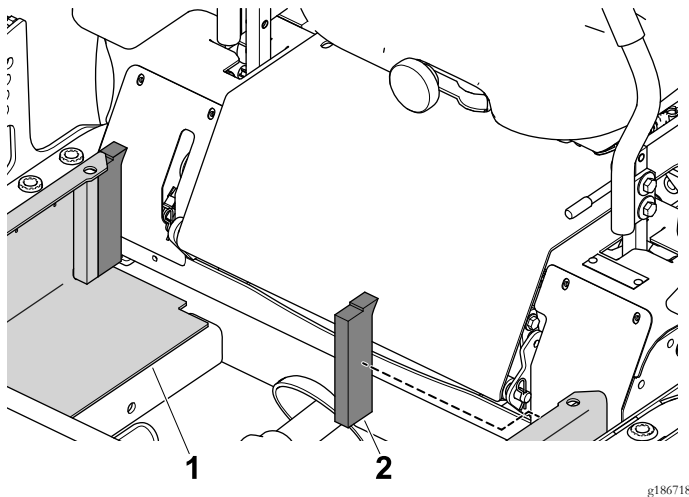

Figure 10
2. Remove the backing and apply the foam seal to the frame (Figure 10).